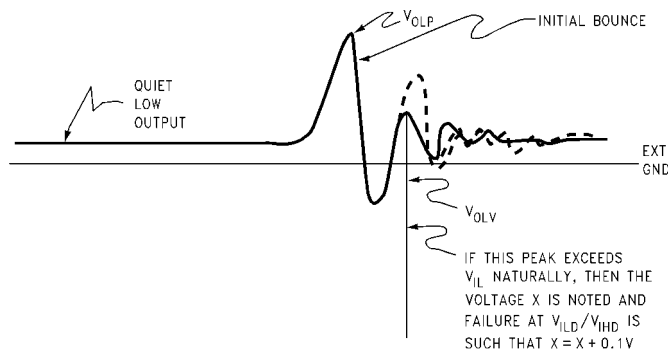

FIGURE 35.
3. If the natural ringing, other than the initial bounce, of the output violates an input threshold level, the starting voltage level is noted and monitored until a 100 mV amplitude change towards threshold. If no amplitude change occurs, then the next peak or valley on the output is monitored for input threshold violation. Figure 35.